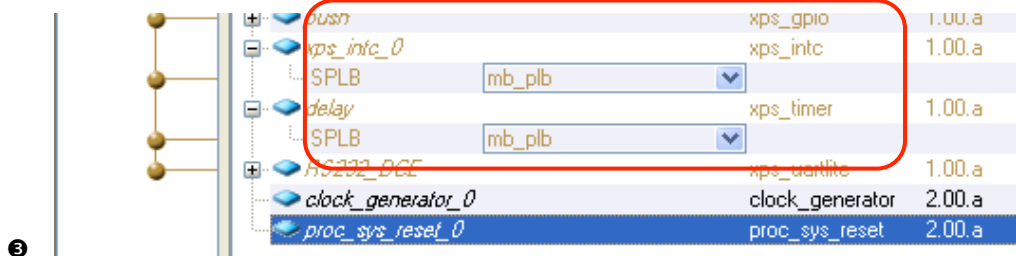

Figure 1-59. Add and Connect the Interrupt Controller and Timer Peripherals
- ❶ Add the **XPS Timer/Counter** peripheral from the **DMA and Timer** section of the IP Catalog and change its instance name to **delay**
- ❷ Add the **XPS Interrupt Controller** peripheral from the **Clock, Reset, and Interrupt** section of the IP Catalog
- ❸ Connect the **timer** and **interrupt controller** as a 's' (slave) device to the PLB bus (see **Figure 1-59**)